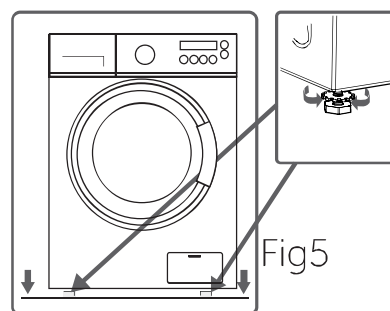

Fig5
**3:** First, loosen the plastic adjustment nut. (Fig 5)